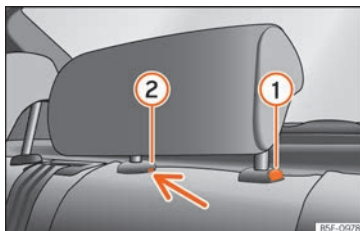

Fig. 150 Rear centre head restraint: release point.
- To set the head restraint lower down, press the » » » **Fig. 150**  button and move it downwards.